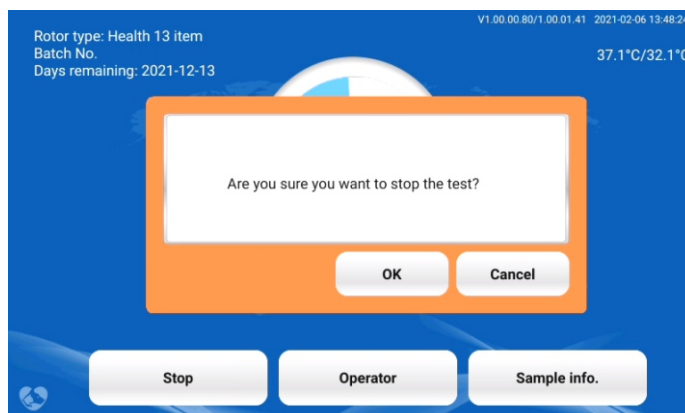

Figure 5-11
- 10) Do not press "Stop" icon during the testing, unless it is in emergency. Click "Stop", it will show a dialog box as Figure 5-11.